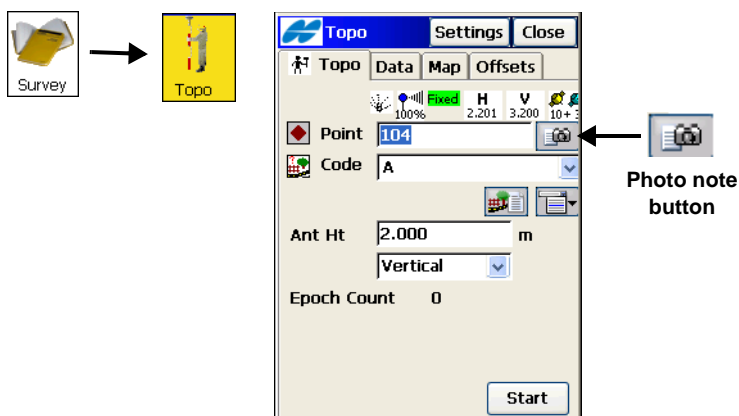

Figure 8-18. Topo
1. Tap **Survey ▶ Topo**. On the *Topo* screen (Figure 8-18), enter the Point name, enter a photo note using the  button if necessary, select a Code and enter the *Ant Ht* and select a height type from the drop-down list.
7. Tap **Start** on the *Topo* tab to start the survey (Figure 8-18 on page 8-18). When using a mmGPS system, the *Topo* tab displays a mmGPS icon . This icon also displays when the receiver calculates mmGPS heights.